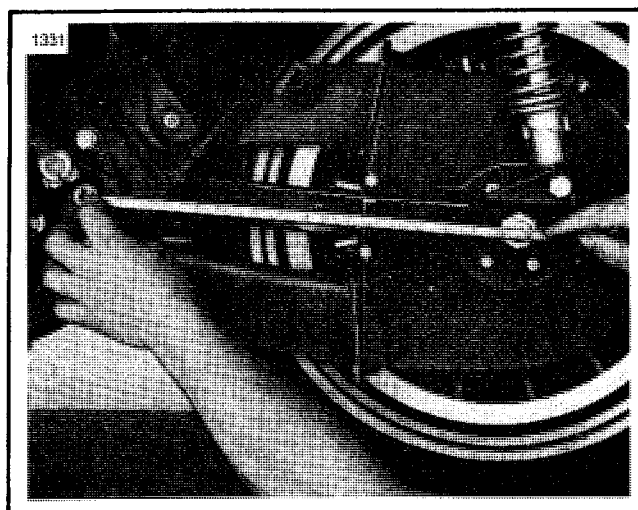

Figure 2. Rear Wheel Lateral Adjustment
4. See Figure 2. Place a 5/8 in. deep socket on each pivot shaft nut and turn axle nut flat so it is parallel with the flat of the socket on the rear swing arm pivot shaft. The measurement from axle nut to socket flat must be equal on both sides of the motorcycle to within 1/32 inch. Adjust the rear chain as described in the REAR CHAIN ADJUSTMENT PROCEDURE found in the 1980 FLT Service Manual, Part No. 99483-80, to achieve the equal measurements.